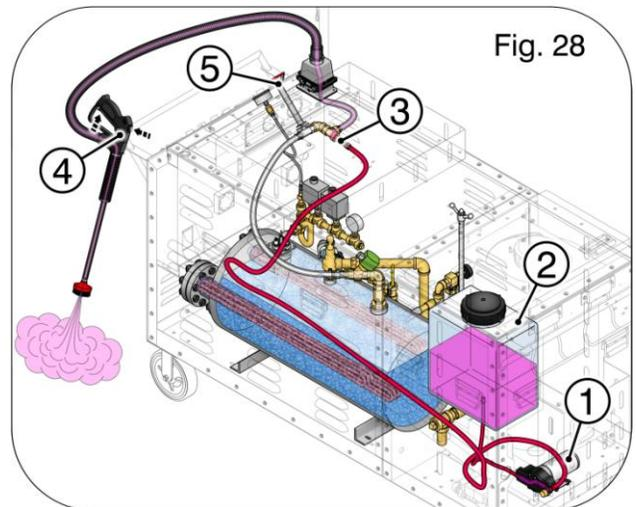

Fig. 28
☞ When you are ready to begin using solution, make sure the Solution Tank (2-Fig. 28) is full of some type of sanitizing solution. (Also see Fig. 4)
- The Solution Pump (1-Fig. 28) will turn on and pump the contents of the Solution Tank (2-Fig. 28) through the Solution Regulator Valve (1-Fig. 29), and then through an inline Check Valve (3-Fig. 28). The liquid will then mix with the high pressure steam before exiting the Steam Gun (4-Fig. 28). The **BLUE** (SOLUTION ON) Light will illuminate whenever solution is being used.
NOTE: The solution will be injected into the outgoing steam after the Steam Regulator Valve (5-Fig. 28). This means the flow of solution cannot be restricted by this valve. In fact, restricting this valve will only cause the solution to steam ratio to increase.